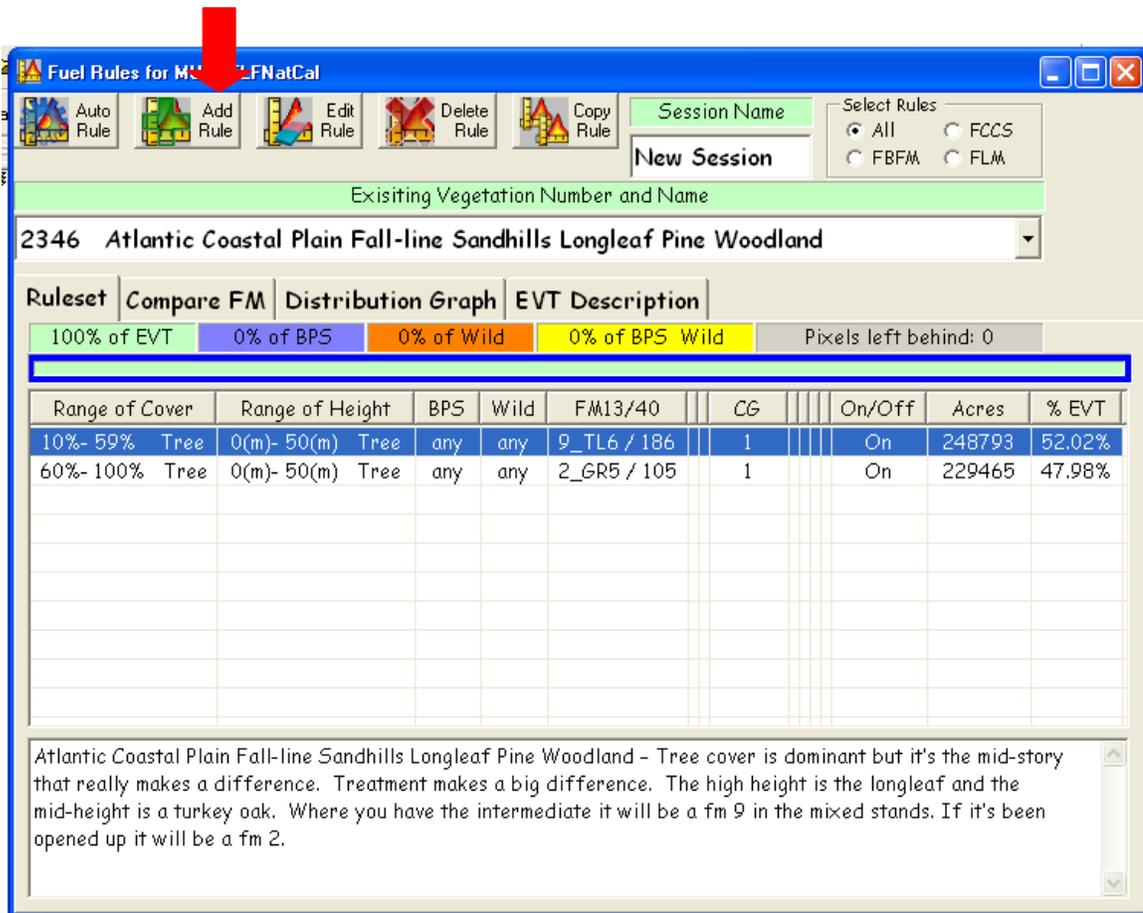

Figure 6-14. Select the **Add Rule** icon on the **FUEL Rules** page to create your own rules.
- To create new rules, click the **Add Rule** icon on the **Fuel Rules** page (fig. 6-14).